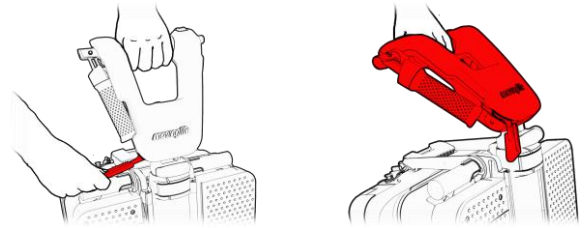

Figure 45
- Release the adjustment lever of the handlebar and bring the handlebar to a horizontal position (see Figure 45, step 1). Then bring the lever back to the secure position (see Figure 45, step 2).